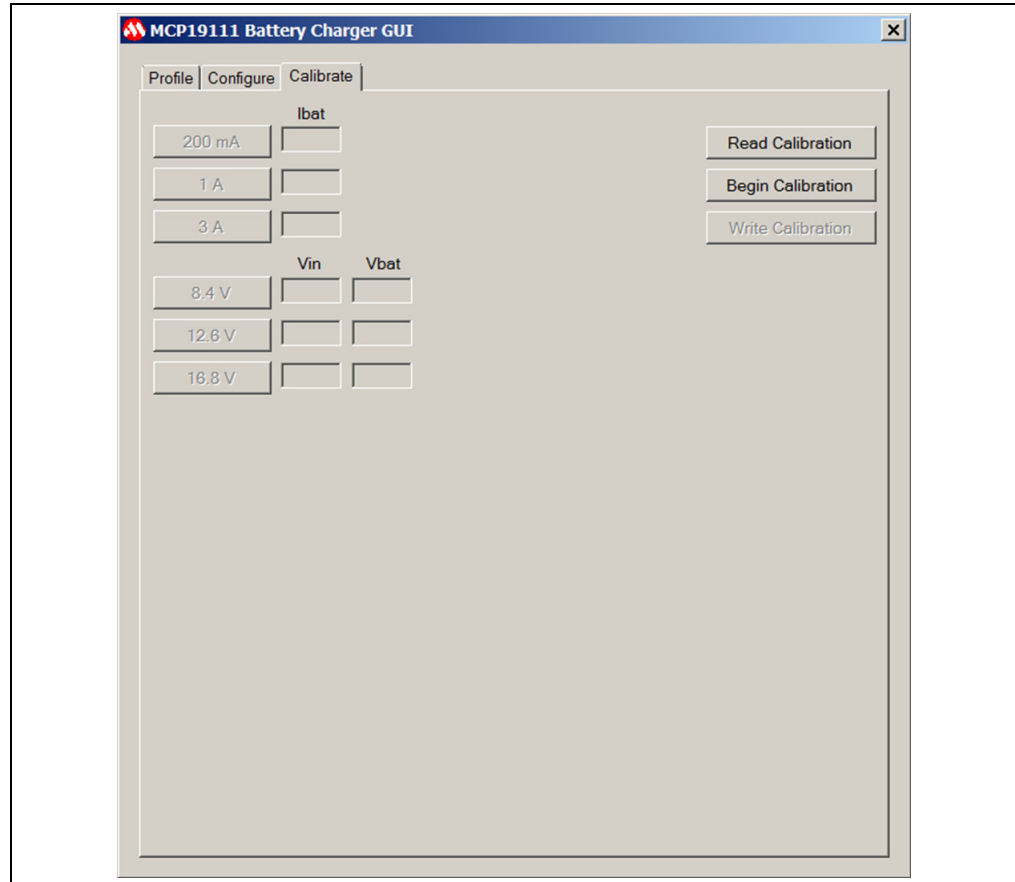

FIGURE 3-12: The Calibrate Tab.
6. In the GUI, select the **Calibrate** tab (see Figure 3-12). This tab contains boxes to read values into the ADC of the MCP19111 to initialize and calibrate the firmware for the specific evaluation board that has been attached.